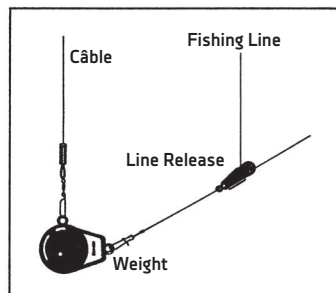

Figure 2
2. Use the Mini-Troll with a 4-lb. weight and line release (Figure 2), and rod holder. All are available in the Mini-Troll Accessory Pack (Part #2250005, sold separately). Attach the weight to the downrigger cable, and the release to the weight. Put the rod in the holder and clip your fishing line between the release pads.